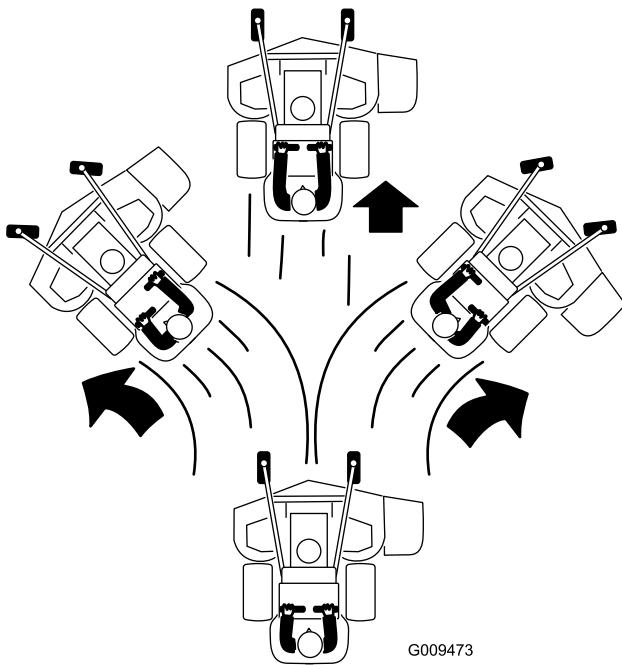

Figure 22
4. Slowly push the motion control levers forward (Figure 22).